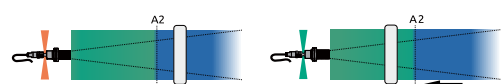

Figure 17 - Single trigger on approaching object
- The output signal switches when the object approach distance (S) is smaller than the adjustment distance (A2). The operating principle is shown in Figure 17. A user-side setting must be implemented for operation: $A2 = S, A1 \rightarrow \infty$